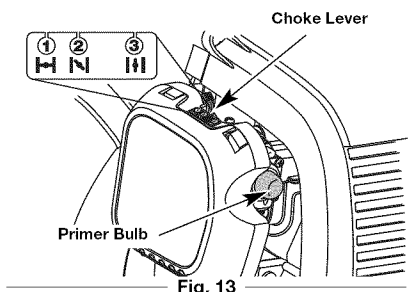
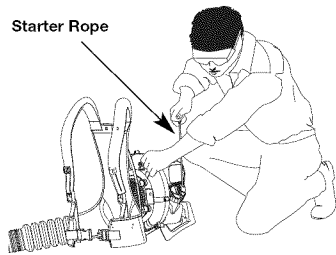

Fig. 13
Fig. 14
WARNING: Avoid accidental starting. Make sure you are in the starting position when pulling the starter rope (Fig. 14). To avoid serious injury, the operator and unit must be in a stable position while starting. To avoid serious personal injury, make sure that the blower tube is locked in place or firmly installed.
3. Slowly press and release the primer bulb 10 times. (Fig. 13). If fuel cannot be seen in the bulb, press and release the bulb until fuel is visible.
4. Move the choke lever to **Position 1** (Fig. 13).
5. Crouch in the starting position (Fig. 14). DO NOT squeeze the throttle control. Pull the starter rope 5 times in a controlled motion.
6. Move the choke lever to **Position 2** (Fig. 13).
- Continue to squeeze the throttle control.** Move the choke lever to **Position 3** (Fig. 13) and continue warming the engine for an additional 60 seconds. During this time the unit may be used.
- Slowly press and release the primer bulb **10** times (Fig. 13). If fuel cannot be seen in the bulb, press and release the bulb until fuel is visible.
- Move the choke lever to **Position 1** (Fig. 13).
- With the unit in the starting position (Fig. 14). Place the Plug-In Power Start or Power Bit Start into the back of the unit. Refer to Operation section of the Plug-In Power Start or Power Bit Start operator's manual.
- Do Not squeeze the throttle control**, press and hold the Plug-In Power Start or drill's ON (I) button for 2 seconds.
- Move the choke lever to **Position 2** (Fig. 13).
- Do Not squeeze the throttle control**, press and hold the Plug-In Power Start or drill's ON (I) button for 2 second intervals until unit starts.
- Continue to squeeze the throttle control.** Move the choke lever to **Position 3** (Fig. 13) and continue warming the engine for an additional 60 seconds. During unit may be used during this time.
- Press and hold the On/Off Control in the OFF (O) position until the unit comes to a complete stop. (Fig. 14)